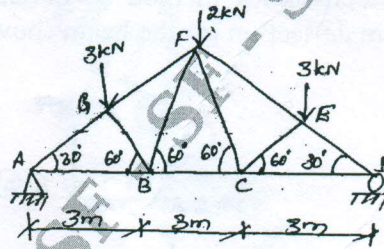

Fig.Q1(b)
- b. Determine the force in each member of the roof truss shown in Fig.Q1(b) by method of joints. (12 Marks)